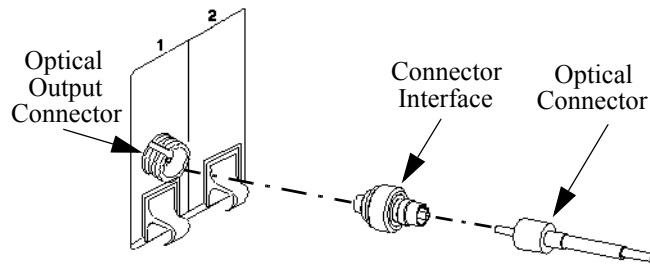

Figure 209 Adding a Connector Interface
- 2 Connect the connector interface to the optical output connector of the module, see Figure 209 on page -333.